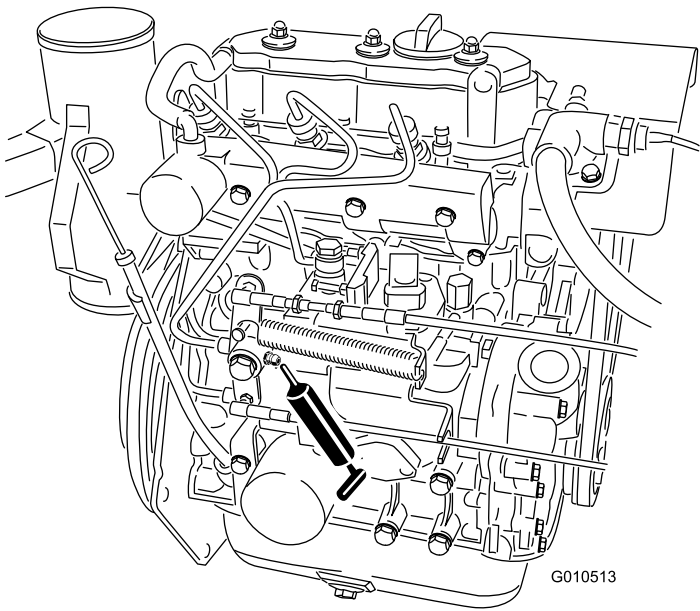

Figure 44
- Accelerator arm (1) (Figure 44)